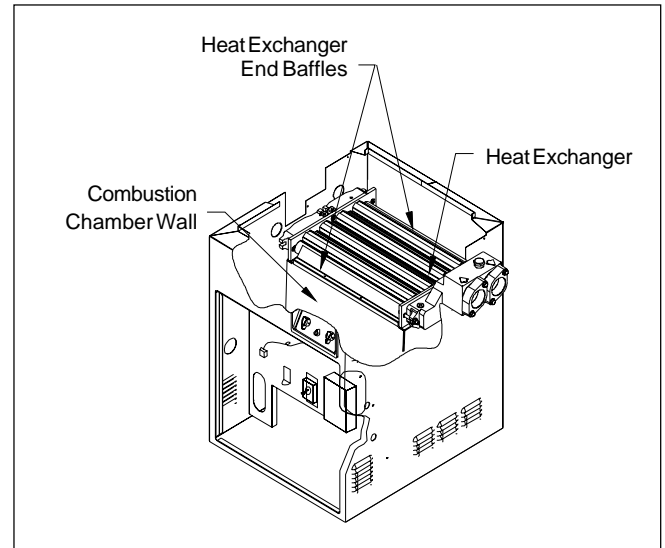

Figure 16. Heat exchanger and end baffles.
To install a pressure relief valve, remove the 3/4 inch (19 mm) brass plug on the in/out header with the valve (see Figure 16). The setting of the valve should be at or below the lowest working pressure of filter system components.
4. Remove the drain plug located on the right-hand side of the heater and replace it with a Pete's plug (see Figure 16).
5. Insert a pocket thermometer (see Figure 16) through the Pete's plug into the header.
3. Insert a pocket thermometer (see Figure 16) through the Pete's plug into the header.